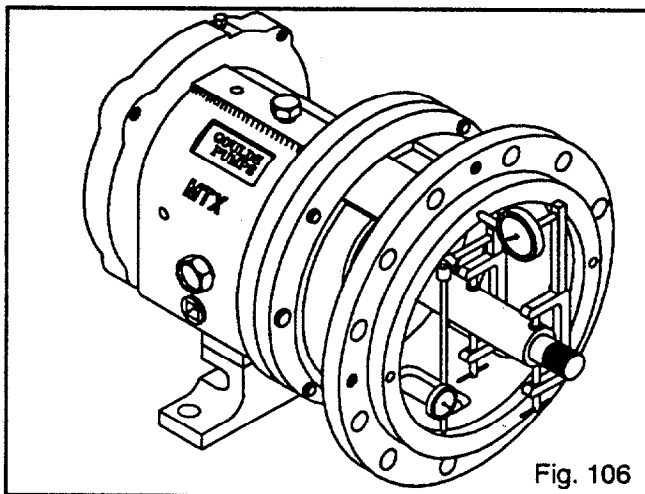

Fig. 106
8. Check adapter fits. Rotate shaft through 360 degrees. If total indicator reading is greater than .005 in. (.13 mm), determine the cause and correct before proceeding (Fig. 106).